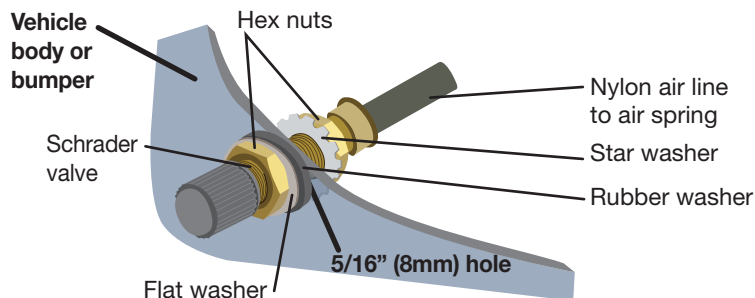

fig. 13
3. Install the Schrader valve in the chosen location (Fig. 13).